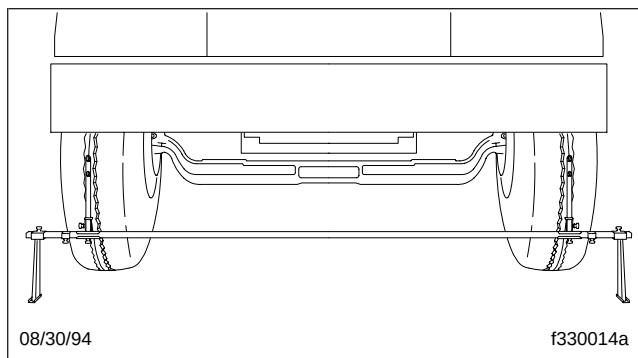
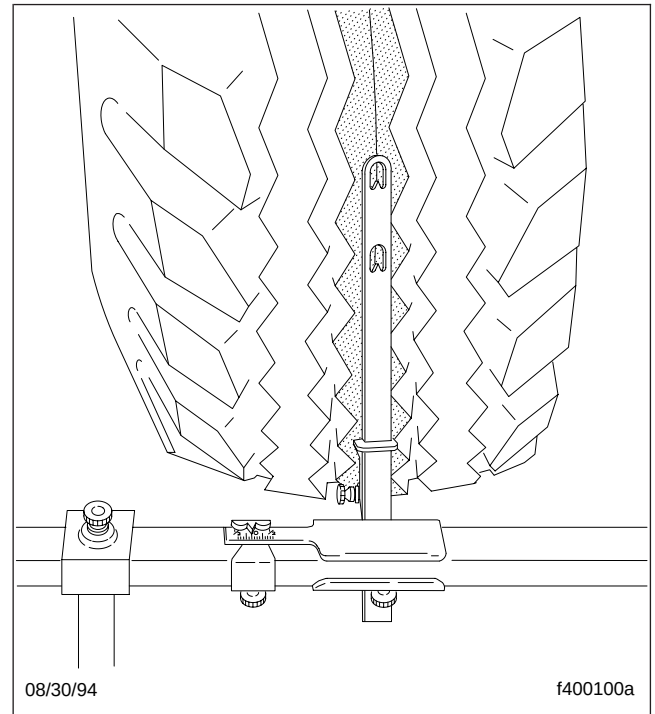

Fig. 6, Trammel Bar Positioning
Fig. 7, Setting the Trammel Bar Pointers
7. Move the trammel bar to the front of the tires (see Fig. 6), and adjust the scale end so that the pointers line up with the scribe lines. See Fig. 7.